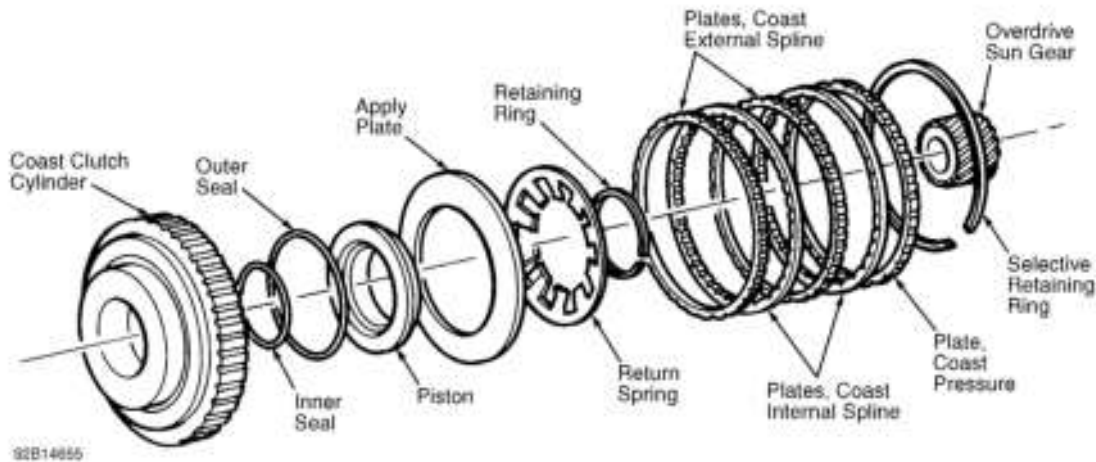

Fig. 13: Exploded View Of Coast Clutch Cylinder Assembly
2. Remove piston, return spring and apply plate. See Fig. 13. Remove piston from coast clutch cylinder. Remove outer seal from piston. Remove inner seal from cylinder.
4. Install a steel plate and then a friction plate; alternately install remaining clutch pack. See Fig. 13. Install pressure plate and secure pack with retaining ring.